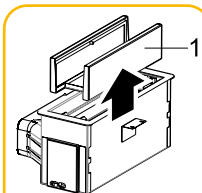

Fig. 10
2. Remove the main waste bin upwards and remove it (Fig. 10).
press the timer button (Figure 10/2). Metal oil filter clean message is deleted.